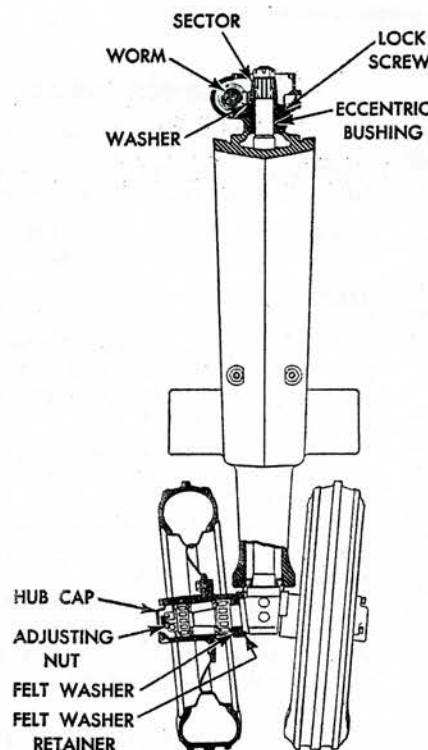

Fig. 51 Front suspension and steering gear. Typical of Series A, B, G, H with dual front wheels
**WHEEL BEARINGS**—Fig. 51. To adjust
**STEERING SHAFT**—To remove the steering shaft (wormshaft), Fig. 51, remove the steering wheel and pedestal housing cover. Remove steering shaft bearing housing and gasket shims. Pull shaft from front of pedestal.
**ADJUSTMENTS**—Figs. 51 and 52. To take up excess play in the steering mechanism, first jack up the front of the